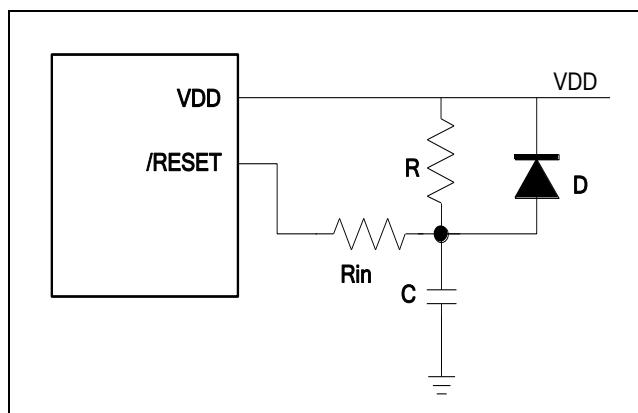

Figure 6-32 External Power-up Reset Circuit
The circuits shown in Figure 6-32 implement an external RC to generate a reset pulse. The pulse width (time constant) should be kept long enough for VDD to reach the minimum operating voltage. Apply this circuit when the power supply has a slow rising time. Since the current leakage from the /RESET pin is about  $\pm 5 \mu\text{A}$ , it is recommended that R should not be greater than 40 K $\Omega$  in order for the /RESET pin voltage to remain below 0.2V. The diode (D) acts as a short circuit at the moment of power-down. The capacitor (C) will discharge rapidly and fully. The current-limited resistor ( $R_{in}$ ) will prevent high current or ESD (electrostatic discharge) from flowing to Pin /RESET.